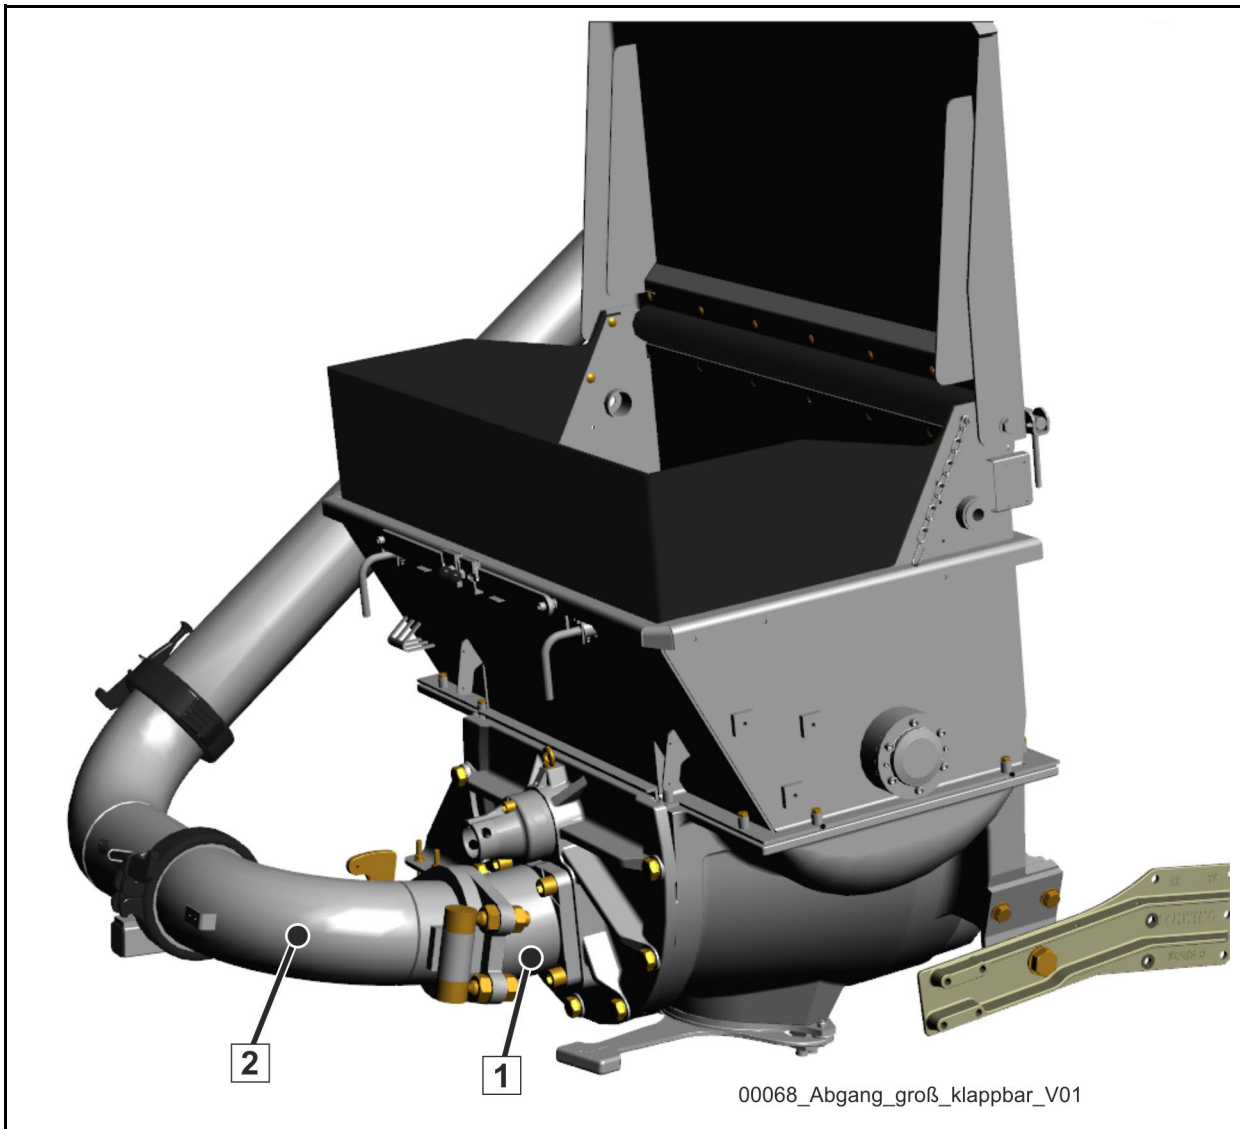

Fig. 177 Large outlet, foldable
The larger outlet 180/180/150 also has a 14-degree elbow mounted on the rock valve, see (1) (Fig. 177).